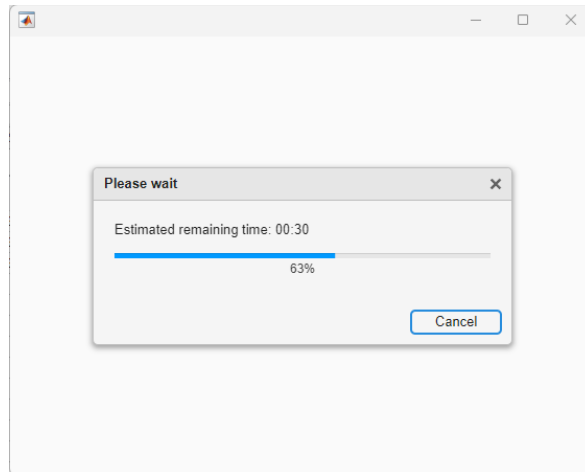

Figure 2. Wait bar indicating the estimated remaining time needed for synchronizing
- A wait bar will appear and show the estimated remaining time for the synchronization process (**Figure 2**). This process attempts to use 90% of the available RAM (memory) and may take several minutes, depending on the size of the files and computer specifications.